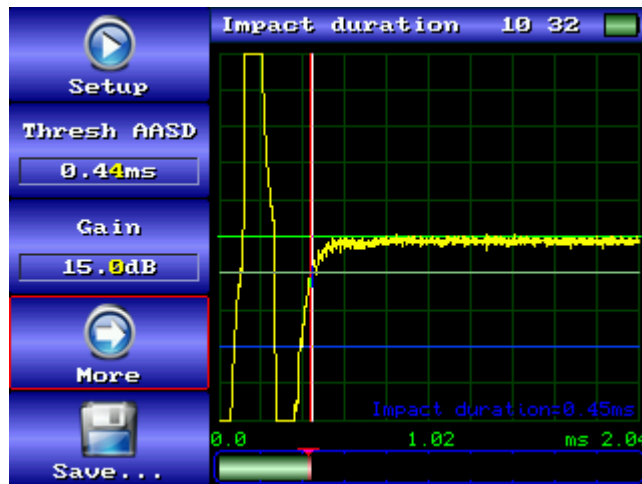

Fig.D. 2 Impact vibrations chart.
During the impact testing on the specimen's surface, impacts are made by striking with the transducer's striker. The impact oscillations are read off the striker and displayed in the "Impact duration" mode chart (see Fig.D. 2).
D.2.3.8 Impact the defect-free area of the TS-2 testing specimen with the transducer. The graph of vibrations must be displayed (see **Fig.D. 2**);
**Note:** the found duration of impact vibrations is indicated with the vertical white line on the graph (see **Fig.D. 2**). This duration is determined by exceeding of the amplitude threshold (set in the “SC Thresh.” parameter) on the timescale backside (see **Fig.D. 6**). The amplitude of received vibrations depends on two values: the impact strength and set gain length. **Fig.D. 7** represents the graphs of received signals. The amplitude of received vibrations represented in the **Fig.D. 7, a)** is sufficient for correct determination of the vibration duration. The amplitude represented in the **Fig.D. 7, b)** does not exceed the threshold of one scale cell along the Y axis; it is necessary to increase the gain value. Therefore, it is necessary to make special impacts (they must be experimentally determined) and set the right gain level. By default, the gain is set to 15 dB; it will be optimal for the most cases.